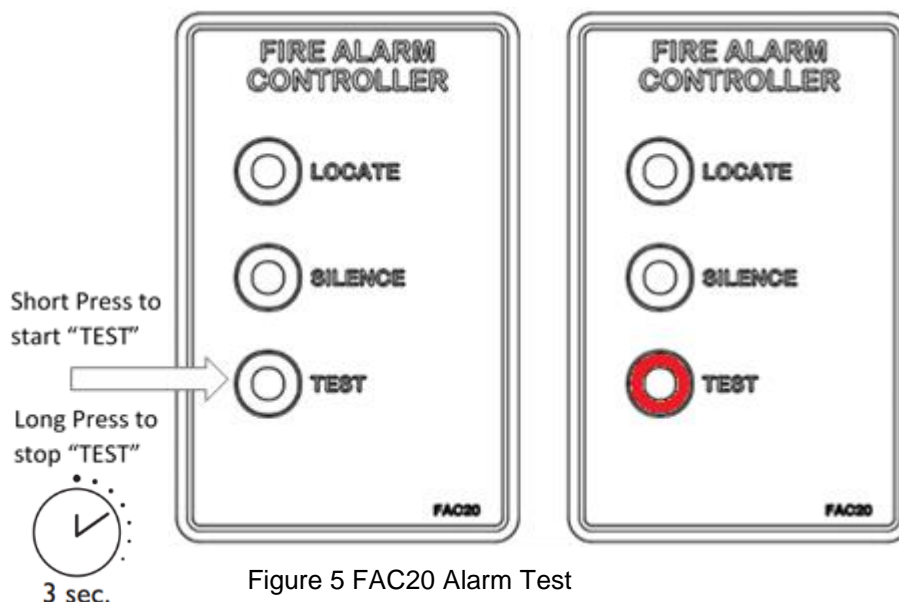

Figure 5 FAC20 Alarm Test
1. Press the “TEST” button, the “TEST” LED will illuminate steady RED as shown in Figure 5 below and all Alarms will sound.